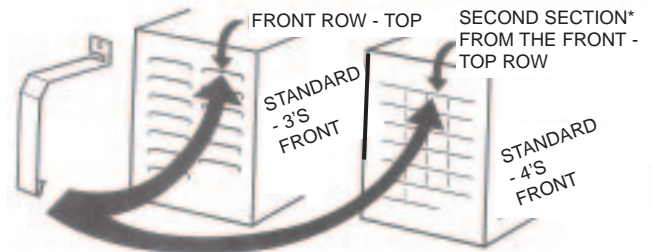

Figure 1
1) **For - 3 Models** (with stainless side panels), hook the bottom end of the strap into the louvre in the top row nearest the dispenser's front on both sides of the dispenser. (See Figure 1)
**For - 4 Models** (with plastic side panels), hook the bottom end of the strap under the second section\* of the top louvre on both sides of the dispenser. (\*note the sections under the louvres)(See Figure 1)